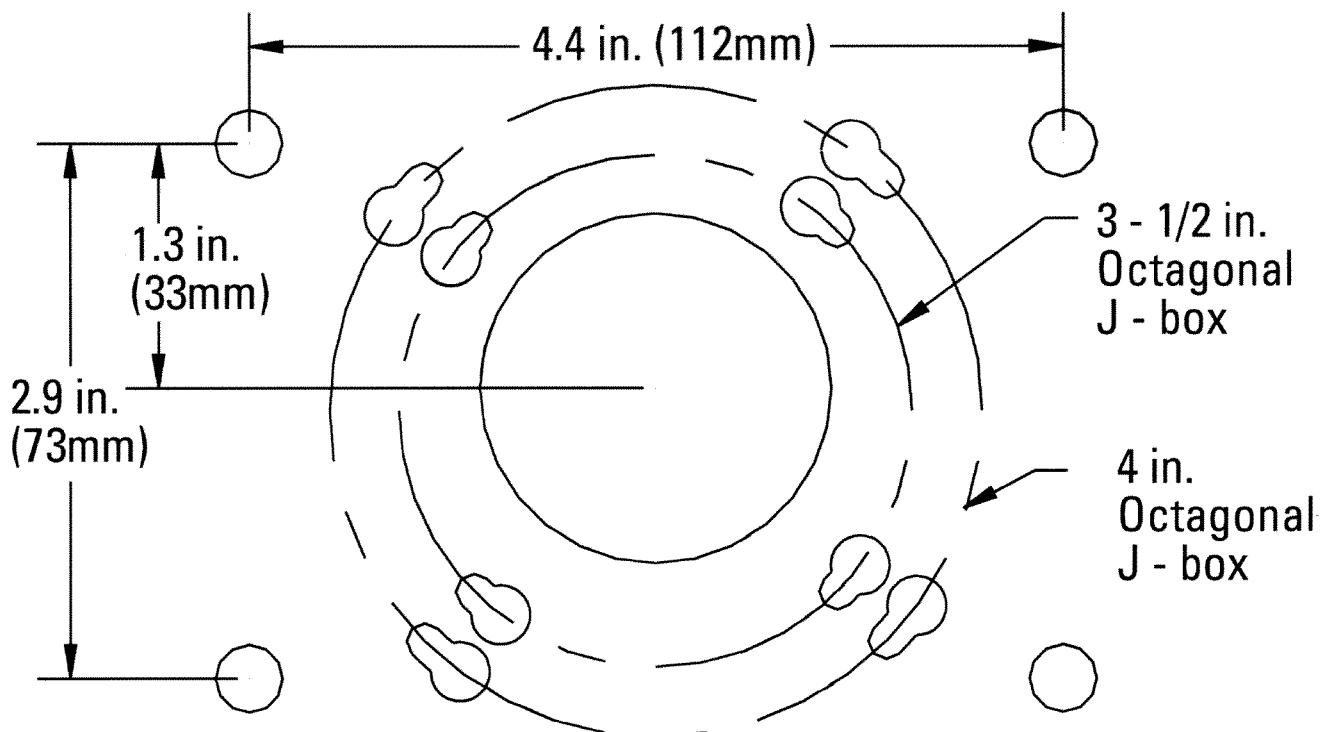

FIGURE 3
- Attach the Mounting Box to the wall or outlet using the holes in the cover as a drill template. Alternately, the mounting diagram in these instructions may be used as a drill template (see Figure 3).